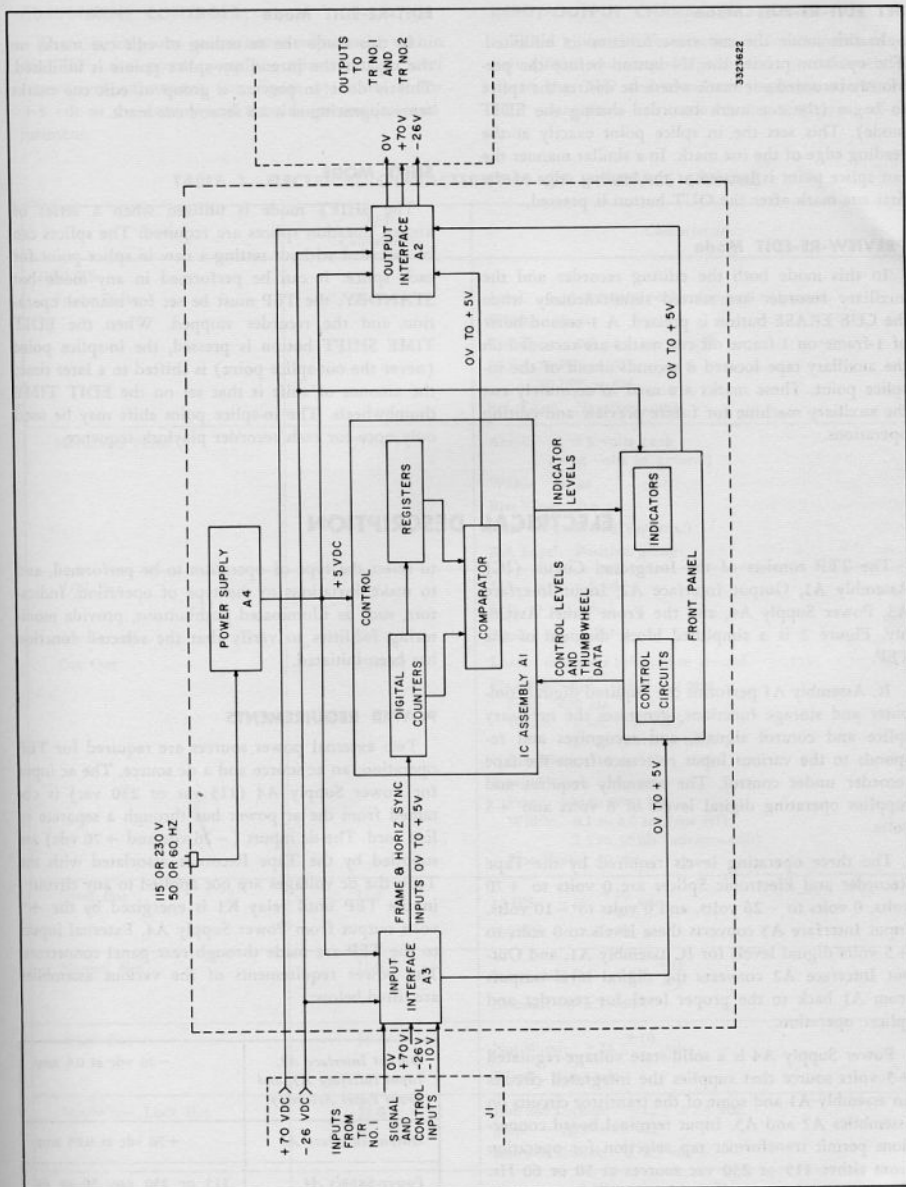

Figure 2—Tape Editing Programmer, Simplified Block Diagram
The TEP consists of the Integrated Circuit (IC) Assembly A1, Output Interface A2, Input Interface A3, Power Supply A4, and the Front Panel Assembly. Figure 2 is a simplified block diagram of the TEP.